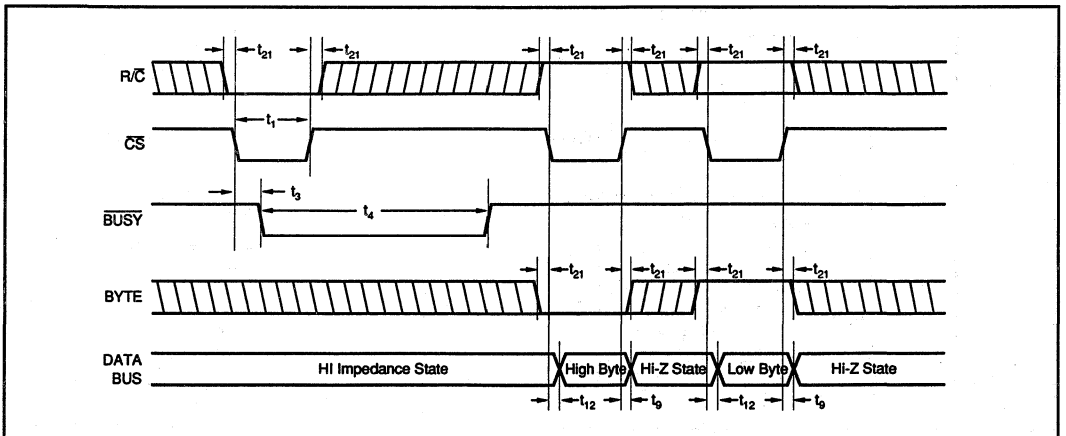

FIGURE 4. Using \overline{CS} to Control Conversion and Read Timing.
$T_A = -40^{\circ}\text{C}$ to $+85^{\circ}\text{C}$, $f_s = 100\text{kHz}$, $V_{\text{DIG}} = V_{\text{ANA}} = +5\text{V}$, using internal reference and fixed resistors as shown in Figure 4, unless otherwise specified.
T_A = -40°C to +85°C, f_s = 100kHz, V_{DIG} = V_{ANA} = +5V, using internal reference and fixed resistors shown in Figure 4, unless otherwise specified.
NOTES: (1) LSB means Least Significant Bit. For the ±10V input range, one LSB is 4.88mV. (2) Typical rms noise at worst case transitions and temperatures. (3) As measured with fixed resistors in Figure 4. Adjustable to zero with external potentiometer. (4) For bipolar input ranges, full scale error is the worst case of -Full Scale or +Full Scale untrimmed deviation from ideal first and last code transitions, divided by the transition voltage (not divided by the full-scale range) and includes the effect of offset error. For unipolar input ranges, full scale error is the deviation of the last code transition divided by the transition voltage. It also includes the effect of offset error. (5) All specifications in dB are referred to a full-scale ±10V input. (6) Full-Power Bandwidth defined as Full-Scale input frequency at which Signal-to-(Noise + Distortion) degrades to 60dB. (7) Recovers to specified performance after 2 × FS input overvoltage.